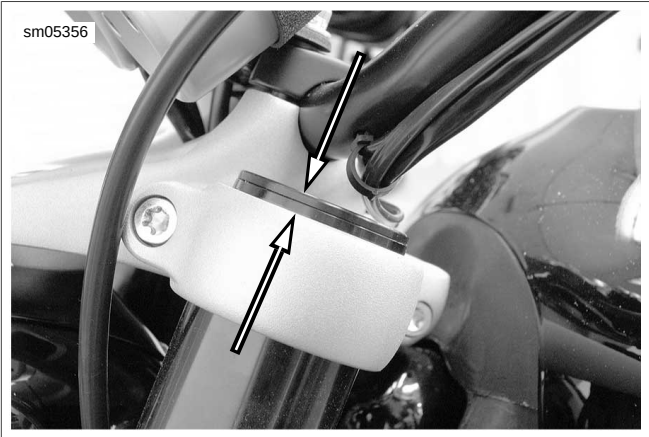

Figure 2-200. Fork Installation Height Measurement
- See Figure 2-200. Measure distance from top of upper fork bracket to top of fork assembly. Both sides must be exactly the same and measure 0.250-0.330 in (6.35-8.38 mm).